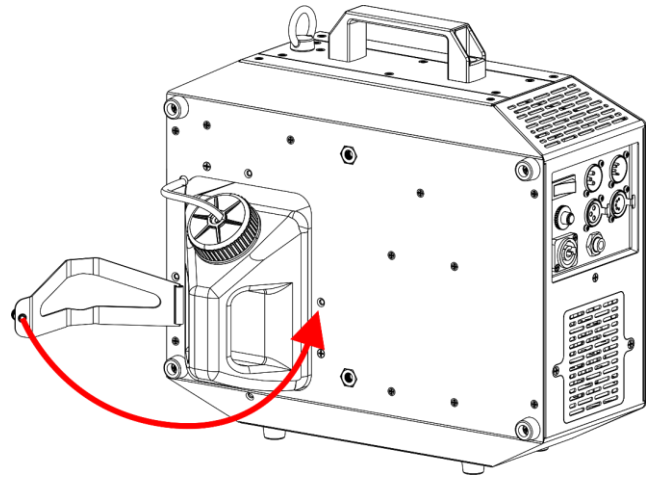

Fig. 23
- 18) Tilt the **bracket for liquid tank (03)**, as shown in Fig. 23.